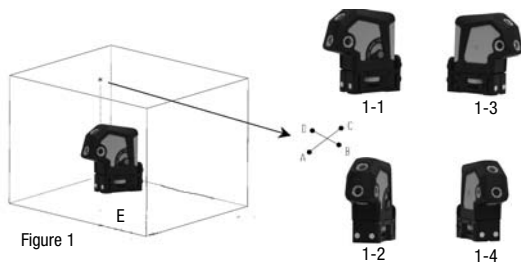

Figure 1
1. As shown in figure 1, put the unit on the ground in the direction shown in figure 1-1.